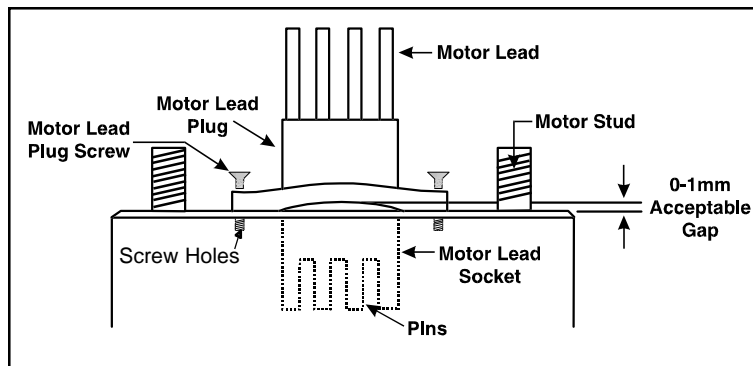

Figure 1
1. Before attaching the pump end to the motor, locate motor lead socket on the submersible motor. (See Figure 1)
4. To secure the motor lead plug to the motor, insert the motor lead plug screws (as supplied in the kit P/N 790491) into the motor lead plug and tighten evenly to 18 in-lbs. The bottom of the motor lead plug should be flush with the top of the motor as shown in Figure 1. Up to 1 mm gap is acceptable between the center of the motor lead plug and the top of the motor as shown in Figure 1.